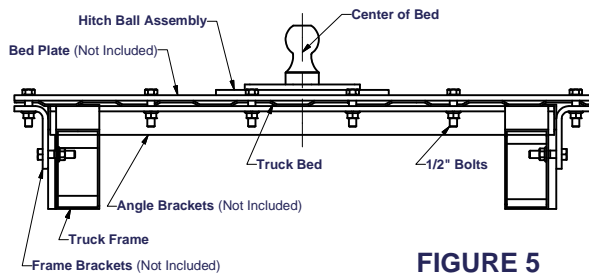

FIGURE 5
- Drill 17/32" holes in front and rear of plate. (Figure 5)
- Place brackets along each side of truck frame taking care to avoid cross members or other parts. Drill 17/32" holes through plate and bed. (Figure 5)
- Drill 17/32" holes through lower angles of brackets and through the truck frame. (Figure 5) Holes must be in center of truck frame.